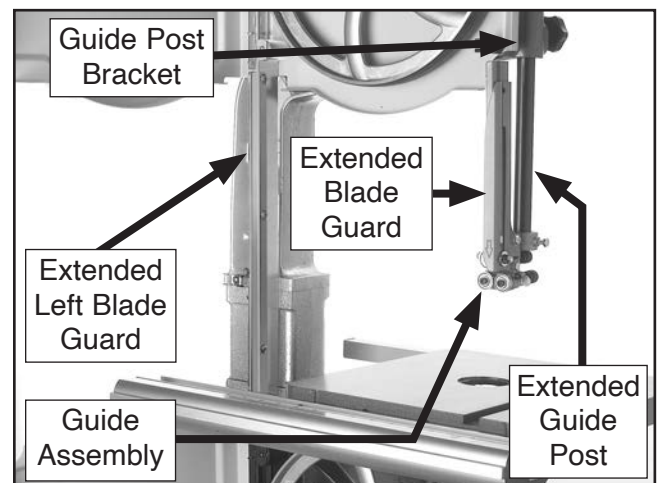

Figure 5. Location of blade guard and guide post components.
9. Install extended left blade guard using the fasteners removed in **Step 3** (see **Figure 5**).
10. Remove guide assembly and blade guard from guide post, then loosen guide post (see **Figure 5**).
11. While lowering guide post, install extended guide post into guide post bracket from above and slowly lower until guide post can be removed (see **Figure 5**).
12. Attach guide assembly and extended blade guard to new guide post (see **Figure 5**).